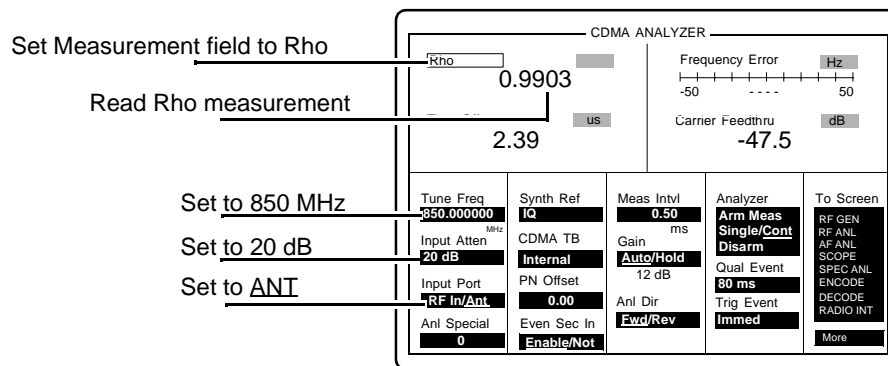

Figure 54 CDMA Analyzer Screen
- b. Select the **Measurement** field and change it to **Rho**, see figure 54.
Step 5. Read and record the Rho measurement, see figure 54.